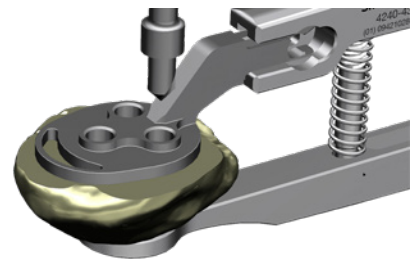

Figure 33
11. Select the appropriate diameter Resurfacing Patella Drill Guide and slide it onto the Patella Reamer Guide. Attach the Patella Reamer Guide Assembly to the reamed patella and tighten the guide onto the patella (Figure 33).
12. Use the Patella Peg Drill to drill the three pegs through the Patella Drill Guide until the drill bottoms out in the guide (Figure 33).